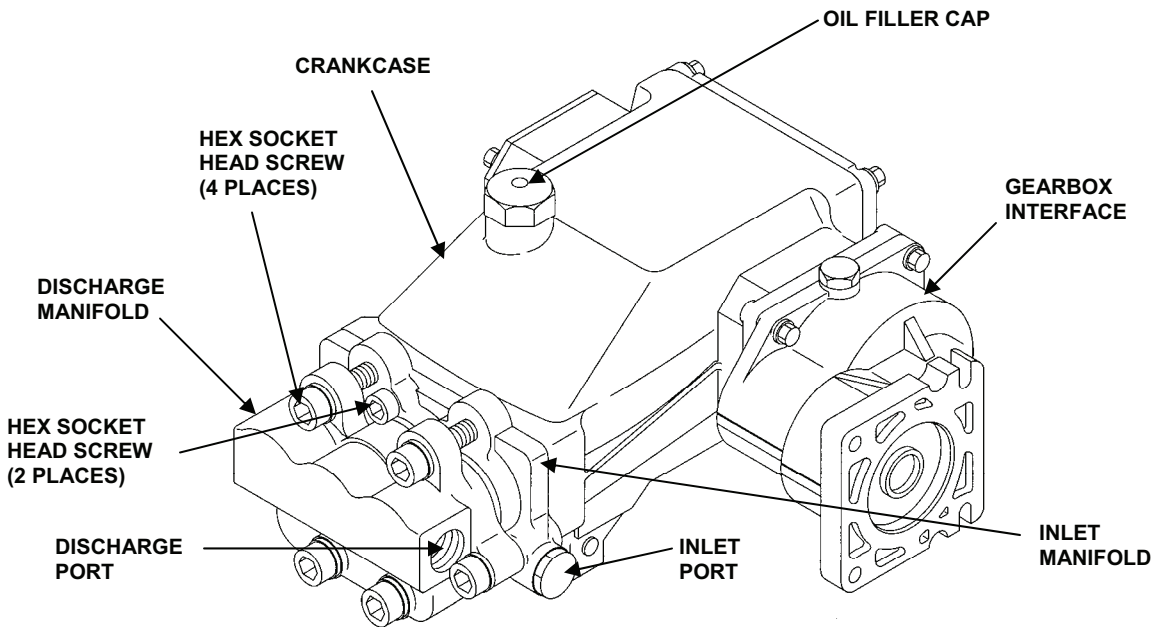

Figure 1. High-Pressure Plunger Pump.
1. Remove two (2) Hex Socket Head screws, four (4) screws, and six (6) lock washers from the discharge manifold. Refer to Figure 1.